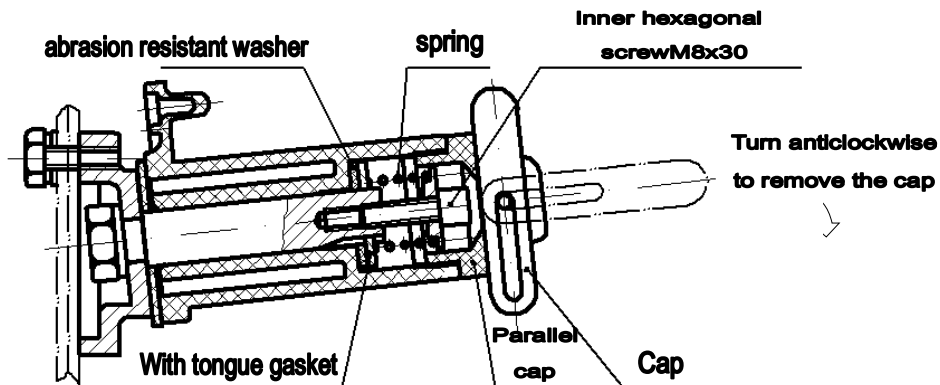

Fig. 2-1-5: Wire reel
The welding wire reel (28) is equipped with a damping wire reel shaft (Fig. 2-1-5). The size of the damping force of the wire reel shaft can be adjusted. When adjustment is needed, pull out the wire reel shaft baffle, remove the parallel cap, tighten the M8 × 30 hexagon socket screw if the damping is increased, loosen the screw if the damping is reduced, install the parallel cap after adjustment, and reset the baffle.